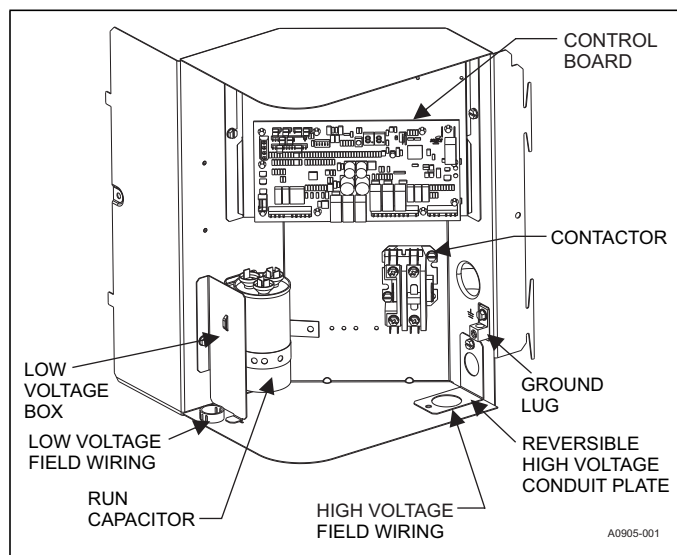

FIGURE 10: Outdoor Unit Control Box
4. Route wires from disconnect through power wiring exit provided and into the unit control box, as shown in Figure 1, and view the openings in Figure 10.